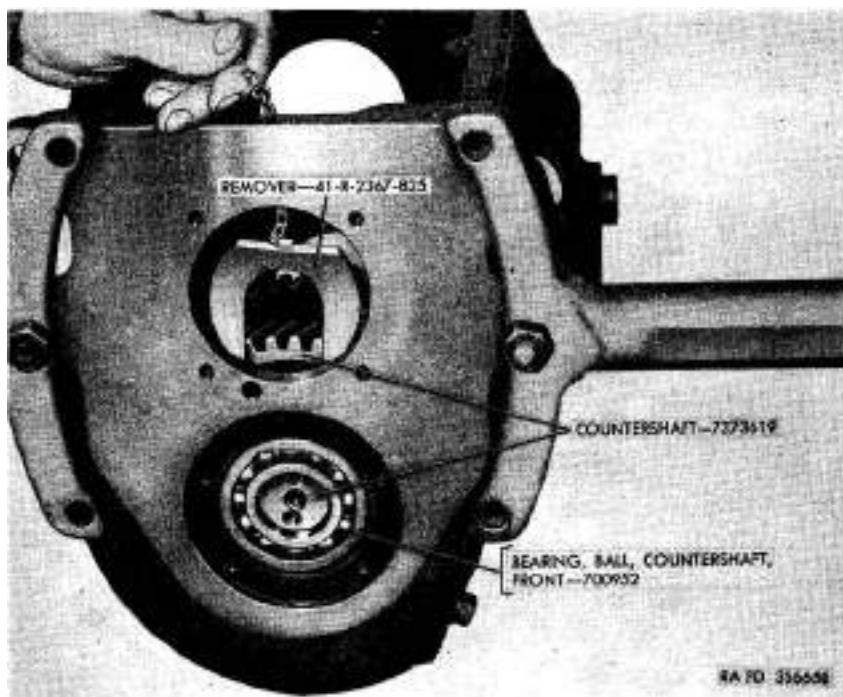

Figure 105. Removing countershaft front ball bearing.
- (1) Drive countershaft (W) with a brass drift and hammer toward rear of transmission case as far as it will go. Lift rear of countershaft and drive the shaft back until gear contacts reverse idler gear shaft support boss. Push down on rear of countershaft with all possible force by hand and drive shaft forward with a plastic hammer to force countershaft front ball bearing (AJ) out of transmission case. If bearing is a tight fit in the case and cannot be removed in the manner outlined above, drive countershaft to the rear as far as possible. Force rear end of shaft down by hand and drop remover 41—R-2367-825 (fig. 105) over the shaft between front bearing and gear.